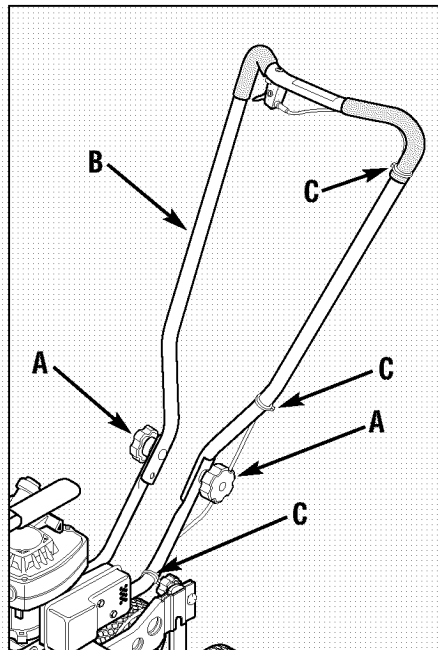

Figure 1: Loosen handlebar knobs and unfold handlebars. Slide plastic ties to the locations shown.
1. Loosen the two handlebar knobs (A, Figure 1) and unfold the handlebars into the operating position. Do not use force — if there is binding, continue to loosen the knobs.
3. Check the locations of the three plastic ties (C, Figure 1). The ties must be positioned as shown.